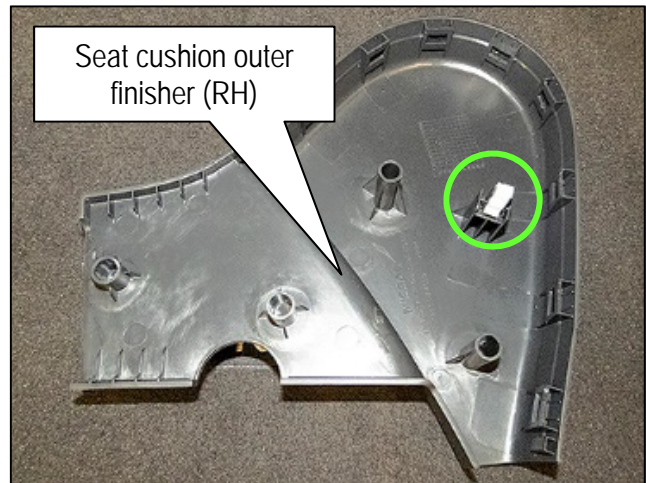

Figure 12
22. Confirm that the white plastic clip shown in Figure 12 is attached to the seat cushion outer finisher (RH). If still attached to the seat frame, remove it and relocate it back to the seat cushion outer finisher (RH).